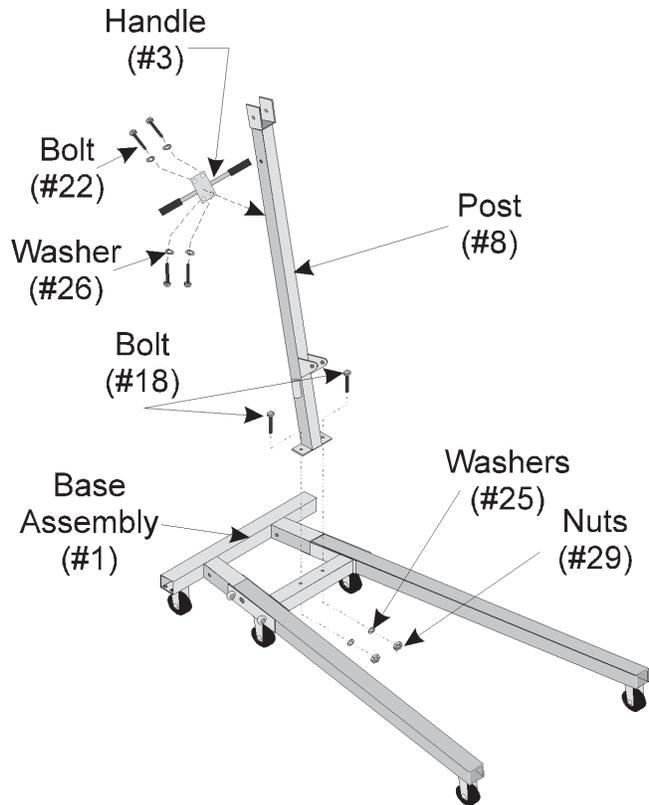

Figure 2 — Assembling the Post onto the Base Assembly
Step 2: Using four BOLTS (22) and four WASHERS (26) assemble the HANDLE (3) to the POST (8). (See Figure 2).
Step 3: Using the BOLTS (19), WASHERS (25), and NUTS (29) secure the POST to the BASE ASSEMBLY as shown in Figure 2.